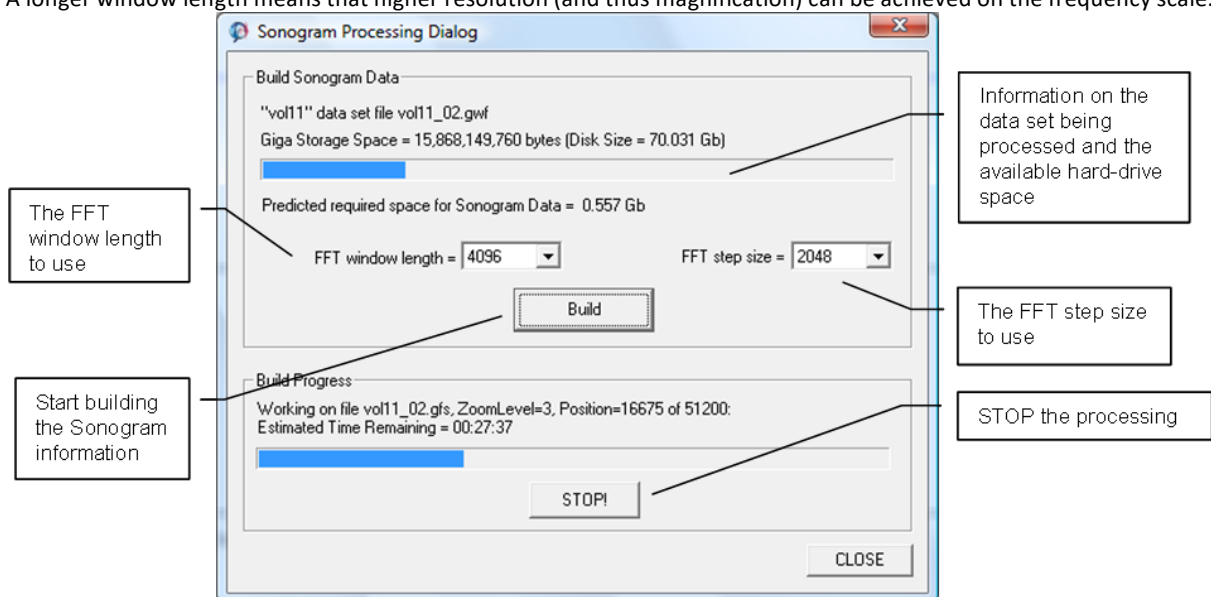

Figure 11-11: The Sonogram Processing DialogBox
2. Click on the 'Build Sonogram' button to display the Sonogram Processing Dialog box (Figure 11-11).